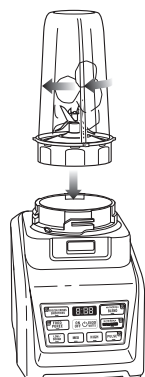

Fig. 3
- 4 Turn the Nutri Ninja® cup upside down and place it onto the motor base, aligning the tabs on the cup with the motor base. Rotate the Nutri Ninja® cup clockwise until it locks in place, you will hear a click when the lock is engaged. (Fig. 3)